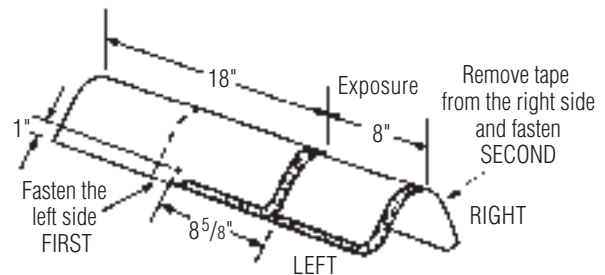

Figure 15-15: Installation of Shingle Ridge shingles on hips and ridges.
7. Fasten each cap with two fasteners (Figure 15-15). The fasteners must be $1\frac{3}{4}$ " long, or longer, so they penetrate either $\frac{3}{4}$ " into the deck or completely through the deck, exposing at least $\frac{1}{8}$ " of the tip of the nail. Expose 8" of the Accessory along the ridge or hip line and cover all fasteners.